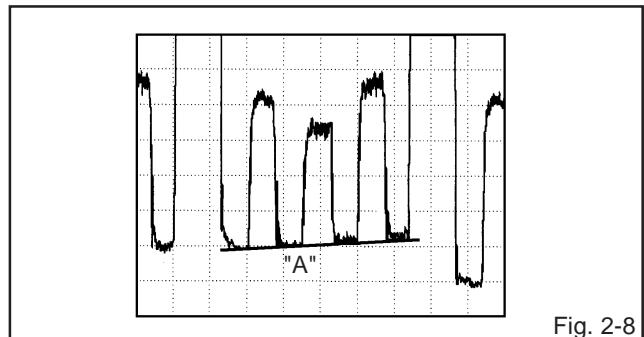

Fig. 2-8
6. Press the VOL. UP/DOWN button on the remote control until the section "A" becomes a straight line. (**Refer to Fig. 2-8**)